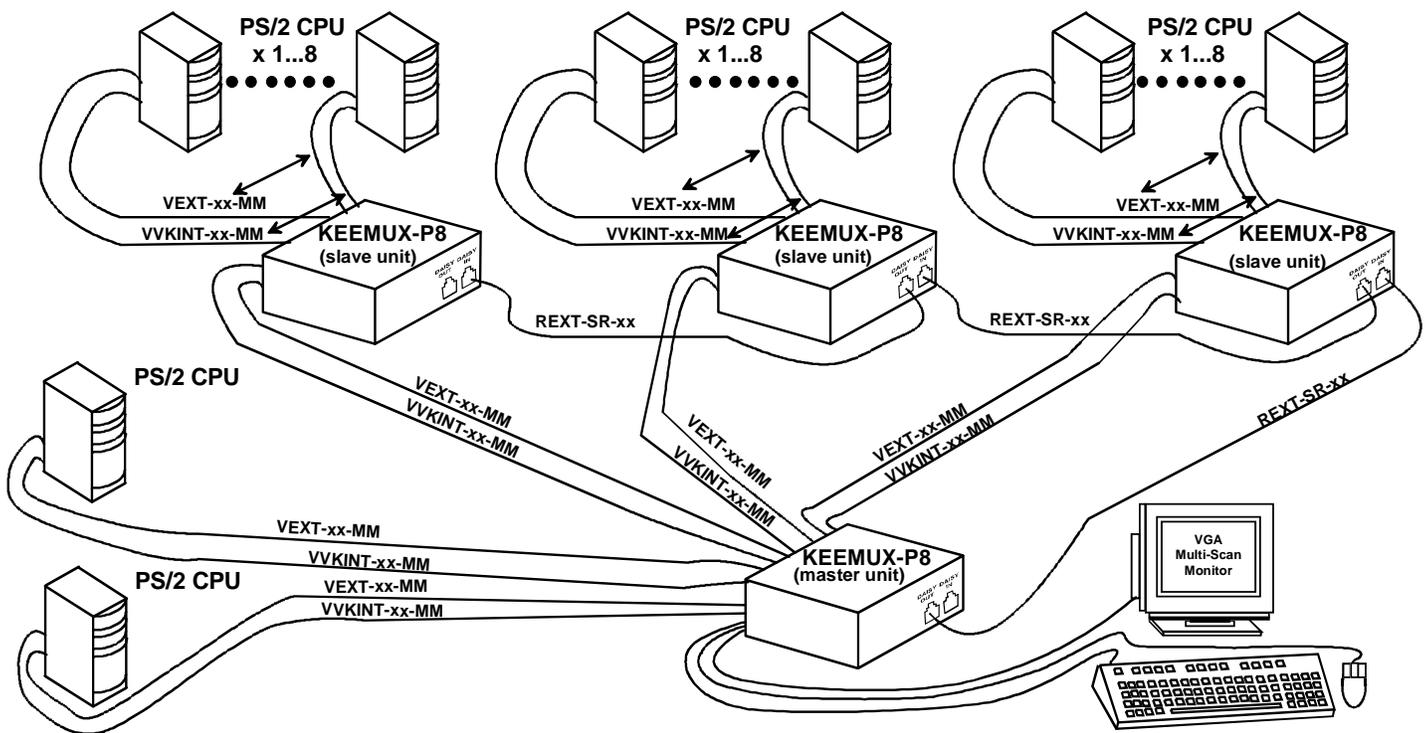

Figure 5- Cascaded configuration
The KEEMUX switch can be expanded to access up to 152 CPUs by cascading multiple units together, as illustrated below. The KEEMUX connected to the monitor and keyboard must be configured as the “master unit” (via dip-switches). Any switches connected to the master unit must be configured as “slave units”. All KEEMUXs are fully configurable for this expansion method. The only additional hardware required is a set of keyboard, monitor, mouse, and RMT extension cables for each slave unit (see Fig. 5 below).
- With a VVKINT-xx-MM or (2) VKEXT-xx-MMs, connect slave #1's PS/2 DEVICES ports to the master's CPU1 KEYBOARD and MOUSE ports.
- Repeat steps c and d for each additional slave unit, keeping in mind that each slave will connect to the next available master's port (i.e. slave #2 to master's VIDEO 2 and CPU 2 KEYBOARD and MOUSE, etc.). See Fig. 5 below.
**Please note: If the switches are being cascaded (such as that illustrated in Fig. 5 on page 5 under “Cascading”), make note of which port each of the CPUs is connected to on each slave and which port each slave is connected to on the master. .**